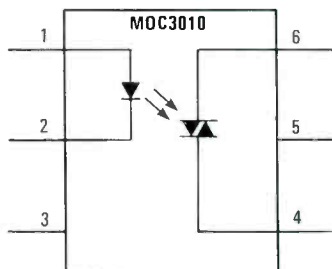

Fig. 3—This block diagram shows the inner workings of the MOC3010 opto-isolator/coupler. Its output element is a diac or triac driver.
**Interface.** Each output of the sequencing circuit is connected to an MOC3010 optoisolator/coupler (U3–U6), which contains an infrared-emitting diode with an infrared-sensitive diac (triac driver or trigger) in close proximity. (See Fig. 3.) The diac is used as a trigger for the triac, which carries the 117-volts AC.